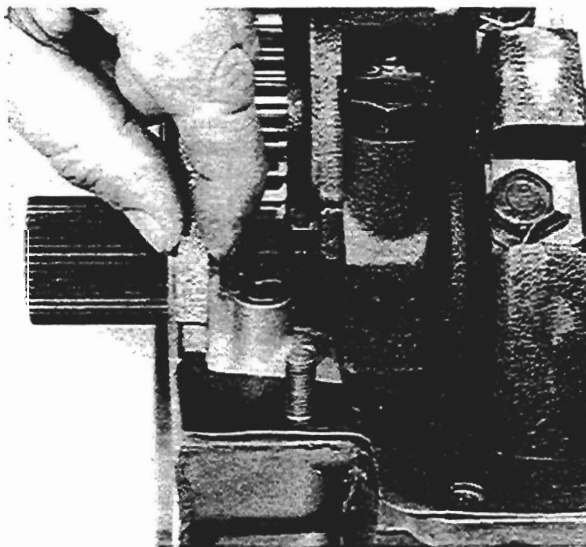

Fig. M6
3. Fit cork joints in the recesses in the timing case and rear main bearing cap (see fig. M6).